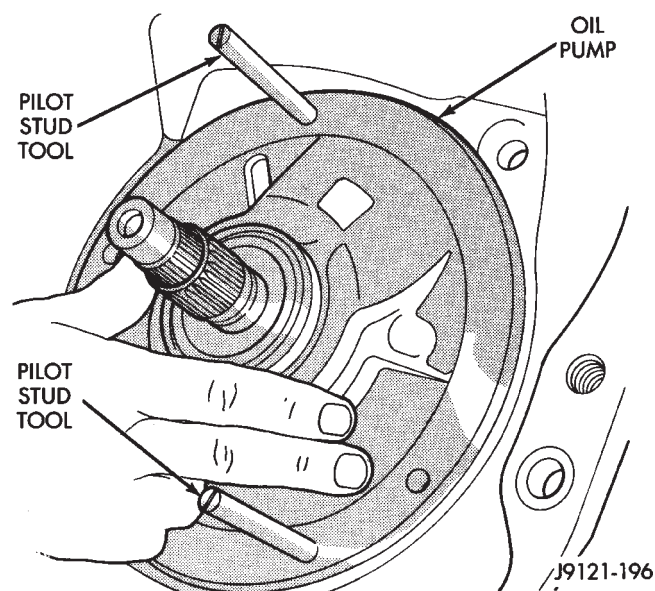

Fig. 178 Installing Oil Pump Assembly In Case
(35) Lubricate oil pump body seal with Ru-Glyde, or petroleum jelly. Lubricate pump shaft seal lip with petroleum jelly.
(36) Install oil pump (Fig. 178). Align and position pump on pilot studs. Slide pump down studs and work it into front clutch hub and case by hand. Then install 2 or 3 pump bolts to hold pump in place.
(37) Remove pilot stud tools and install remaining oil pump bolts. Tighten bolts alternately in diagonal pattern to 20 N·m (15 ft. lbs.).
(38) Install new seals on overdrive piston. Then lubricate seals with Mopar Door Ease, or Ru-Glyde.
(39) Install overdrive piston in retainer. **Align locating lugs on piston in locating bores in**